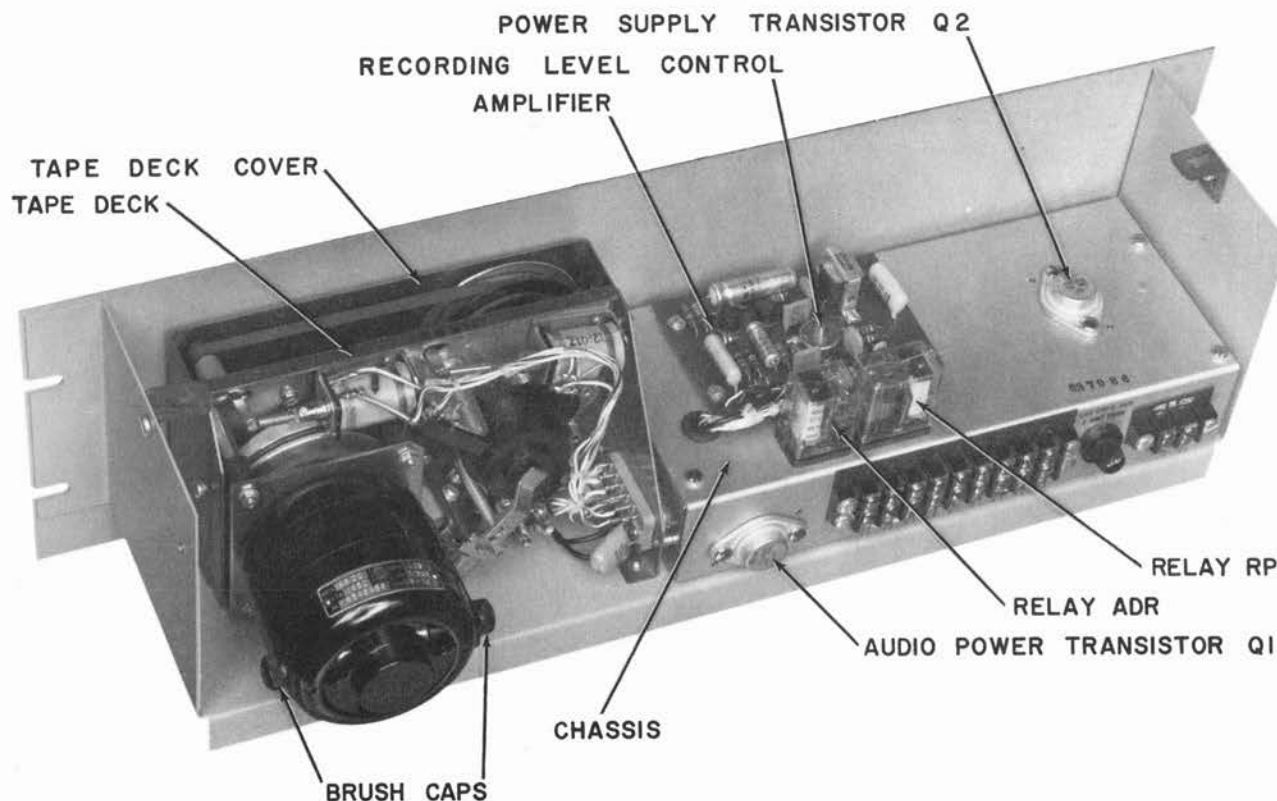

FIGURE 4-1 MODEL 210DC REAR VIEW, COVER REMOVED
- a. Unscrew brush cap (fig. 4-1) and remove motor brush and brush tension spring.
- (1) Remove tape deck from machine (page 4-3).
- (2) Remove three 6-32 x 5/32" screws and tape deck cover (fig. 4-1).
(1) Remove tape deck from machine (page 4-3).
(2) Remove three 6-32 x 5/32" screws and tape deck cover (fig. 4-1).